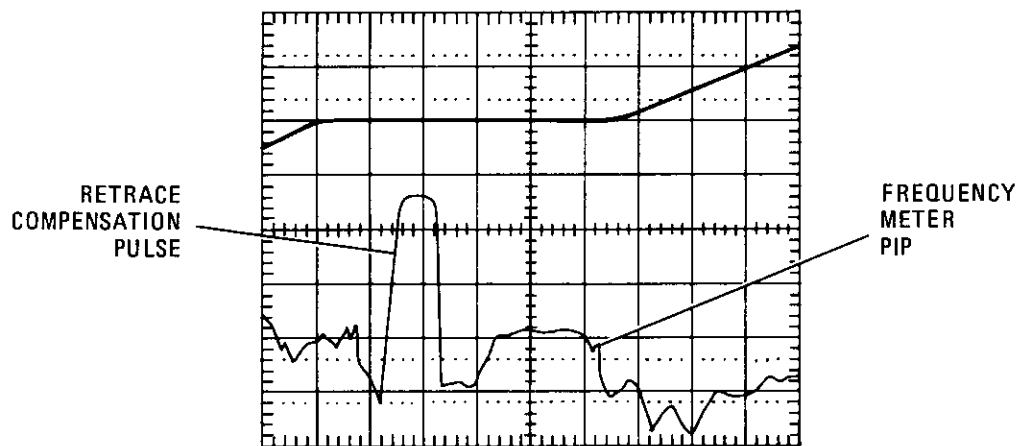

Figure 5-12. YO Retrace Compensation Pulse
6. Use the delayed sweep vernier to set the delayed part of the trace on the bandswitch point between bands 1 and 2 as shown in Figure 5-12.
8. Start with A8R55 (RTC COMP) fully clockwise and adjust it for the widest and flattest pip while moving the spectrum analyzer center frequency to track the bandswitch frequency. A well adjusted retrace compensation pulse is shown in Figure 5-12.